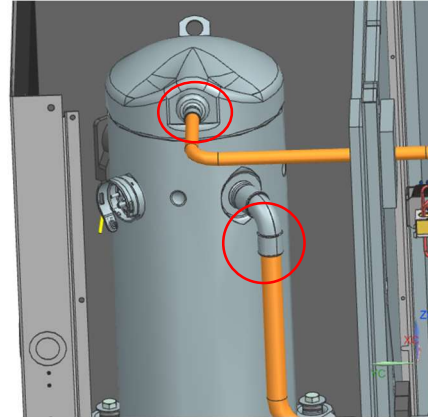

Figure 15. Compressor suction and discharge ports.
- Un-braze Suction and discharge pipes from compressor ports. See figure 15.